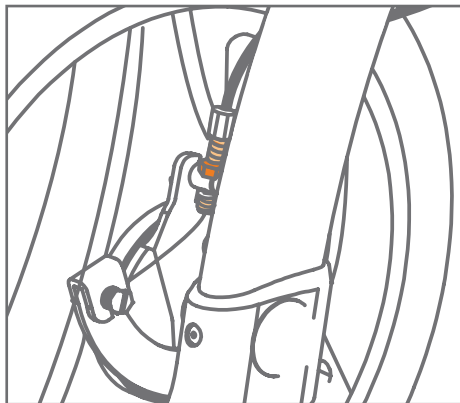

Figure 72: Brake adjustment via the circlip (dark orange) and the adjusting screw.
- b. Stay at the rear of the Rollz Motion Electric when adjusting the brakes. Loosen the locking ring at the bottom of the brake cable (pull the cable up to make it easier). Turn the adjustment screw above it to shorten or extend the brake cable (**Figure 72**). Turn clockwise for more braking power, and anticlockwise for less braking power.